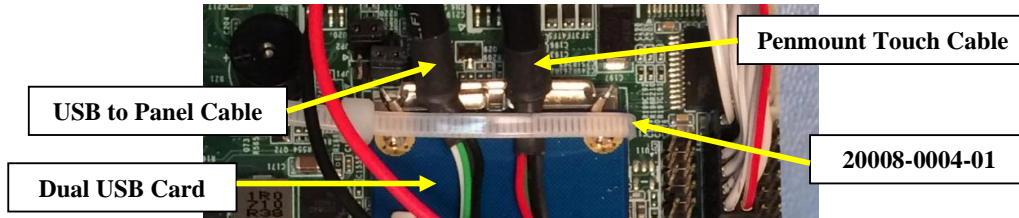

Figure 59
- 20.14. Thread a 4" Tie Wrap (20008-0004-01) under and through the Computer's bracket holding the dual USB card. Collect up the Penmount Touch Cable and the USB to Panel Cable as shown in Figure 59.